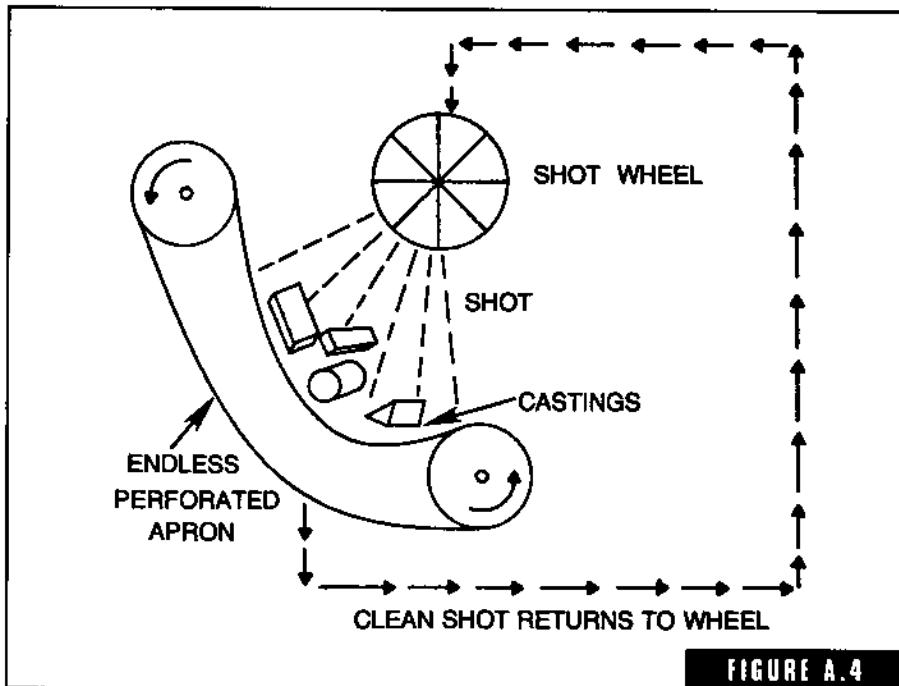

FIGURE A.4
**airless blasting** The cleaning of castings by throwing shot or steel grit against the objects to be cleaned. Similar to sand blasting (Fig. A-4). The basic difference is that air is not used to propel the abrasive. The abrasive is thrown by a high-speed impeller wheel. The shot or abrasive is fed through the hub of the impeller wheel where it is picked up by the throwing blades. It is accelerated as it passes to the periphery of the wheel and is thrown at high velocity. There are variations of the machines but the principle is